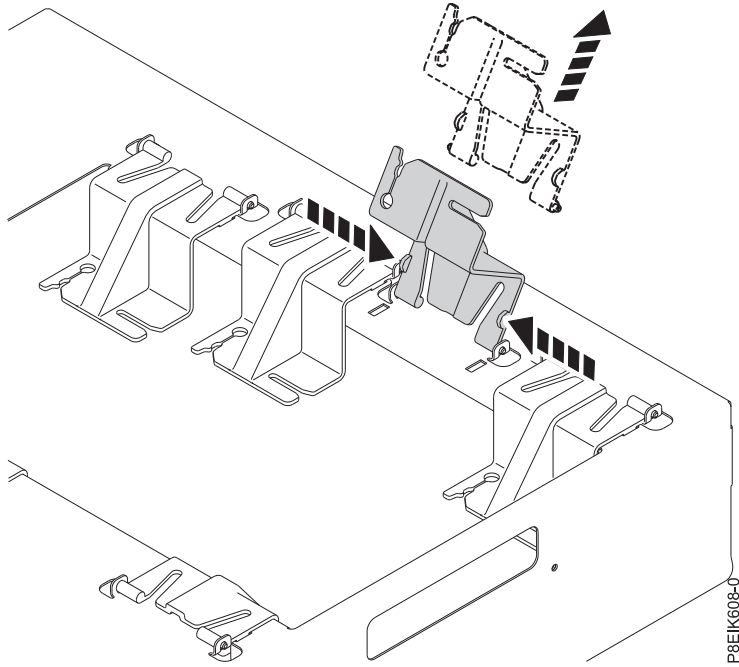

Figure 29. Removing holder from carrier
- a. Pivot the holder up. Pinch in at the sides to remove the holder from the carrier as shown in Figure 29 on page 23.